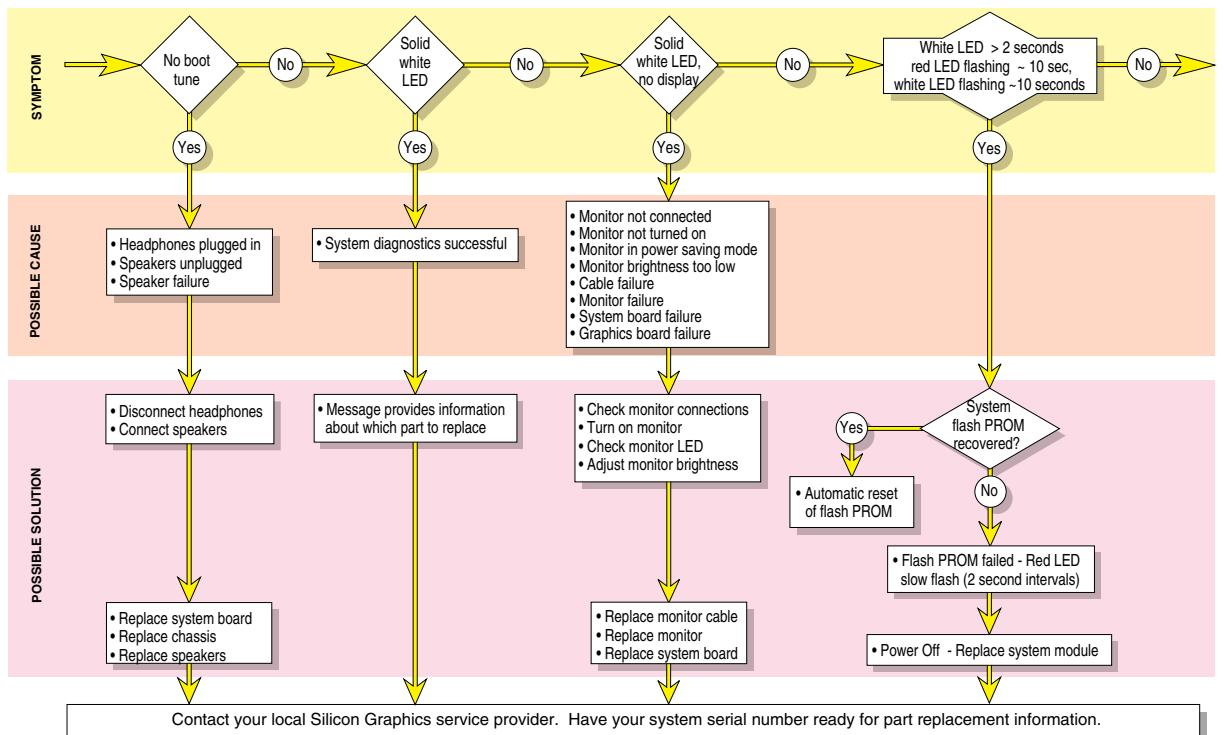

Figure 9-2 Lightbar LEDs - Front of OCTANE, Diagnostic Chart #2
- Lightbar LEDs - Front of OCTANE, Diagnostic Chart, Figure 9-2.